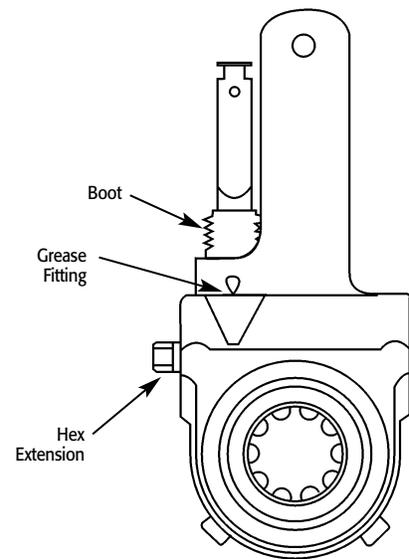

Figure 6 – Lubrication Points
1. A grease fitting is provided to allow lubrication during normal chassis servicing (see fig. 6). With a conventional grease gun, lubricate until grease appears on the camshaft, or grease flows from the grease relief.